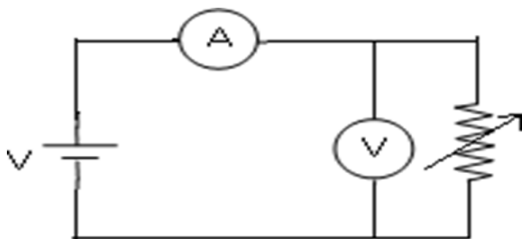

Fig .1
1. Connect the circuit as fig1